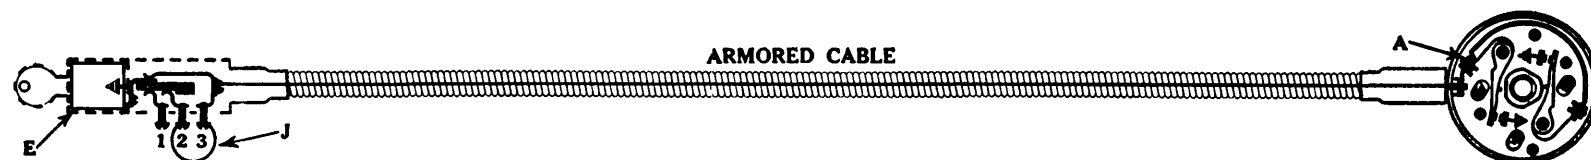

Fig. 7.
1. Remove all wires from terminals on side of switch. Tape end of wire taken from No. 1 Terminal (Fig. 7), as it is "alive" at all times.
3. With a short wire connect terminals No. 2 and No. 3 together, ("J", Fig. 7). Place one TEST POINT on primary terminal on inside of distributor ("A", Fig. 7), and the other TEST POINT on LOCK TERMINAL No. 1. With switch unlocked ("ON" position), lamp should burn. With switch locked ("OFF" position), the lamp should **not** burn.
4. Remove temporary "jump" wire, connecting terminals No. 2 and No. 3. Place one TEST POINT on primary terminal on inside of distributor ("A", Fig. 7), and the other TEST POINT on LOCK TERMINAL No. 2. Unlock switch, push LOCK BARREL in about half way, and release. The lamp should not burn or flash in thus operating the LOCK BARREL.
5. Place one TEST POINT on terminal No. 3, and other TEST POINT on any part of LOCK CASING ("E", Fig. 7). With switch locked ("OFF" position), the lamp should burn. With switch unlocked ("ON" position), the lamp should **not** burn. Should the lamp burn in the unlocked or "ON" position of switch there is either a ground in the "Electrolock", or distributor condenser is shorted or grounded. It will be necessary to disconnect condenser from distributor to determine whether ground is in "Electrolock" or condenser.